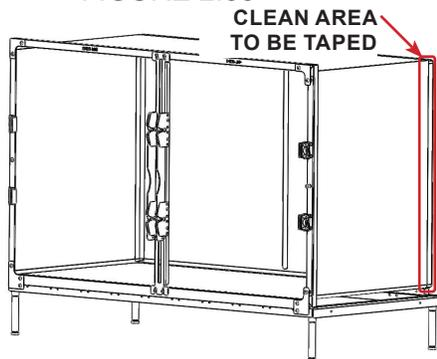

FIGURE 2.55 - Cage Surface Prep
- STEP 4:** Thoroughly clean the cage with alcohol wipes to remove grease, oil and dirt. The two-sided tape will not adhere to surfaces if not clean and clear of dirt and oils. Refer to "Use and Care" section for safe cleaning recommendations. See FIGURE 2.55